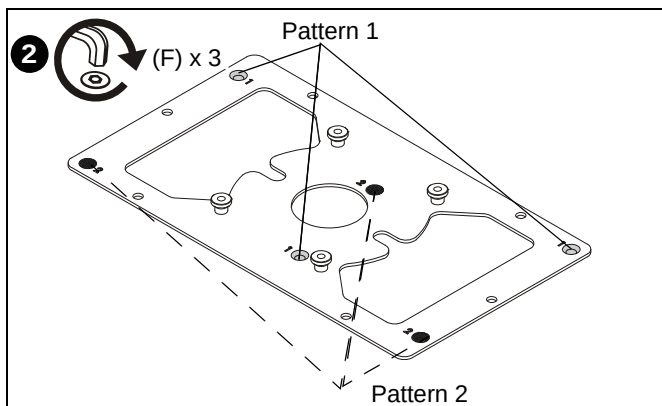

Figure 3
2. Secure small adapter plate (B) to projector using three security flat head screws (F) and three spacers (G) in attachment holes marked with a "1" or "2". (See Figure 3) Proceed to **Attaching to Projector Mount** section.